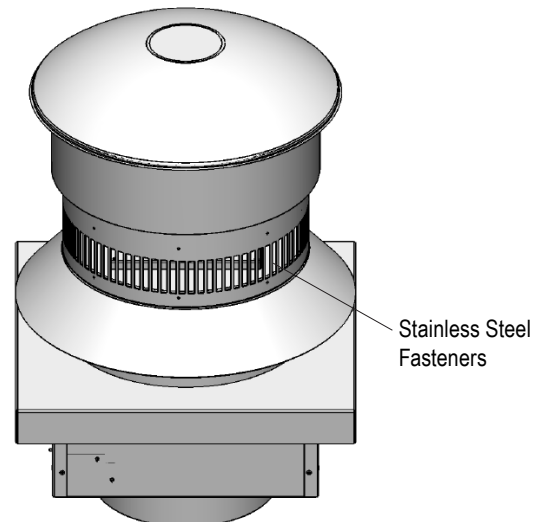

Figure 11g. Completed Power Vent module installation.
Step 8: Secure the Power Vent module with three stainless steel fasteners angled at 120°, penetrating through the inner stainless steel vent cover, see **Figure 11g**.